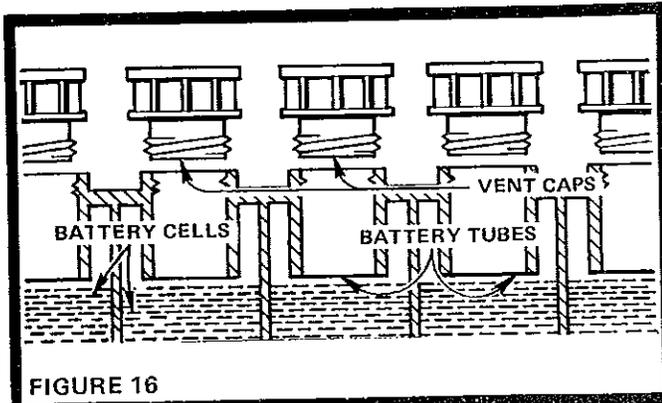

FIGURE 16
- Electrolyte solution level in each Battery Cell should be even with bottoms of tubes in cells (Fig. 16). Add distilled water if necessary. **NOTE: DO NOT OVERFILL.**